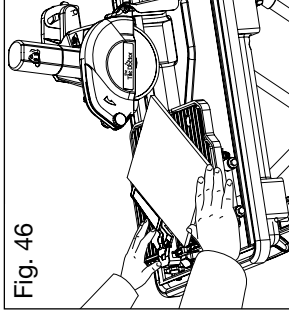

Fig. 46
4. Move the table evenly with two hands during cutting. Do not force the work piece or move the table too quickly (Fig. 46).